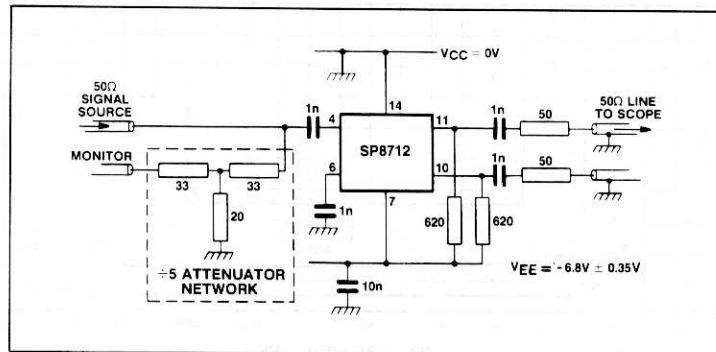

Fig.5 Toggle frequency test circuit
3. The test configuration for dynamic testing is shown in Fig.5.